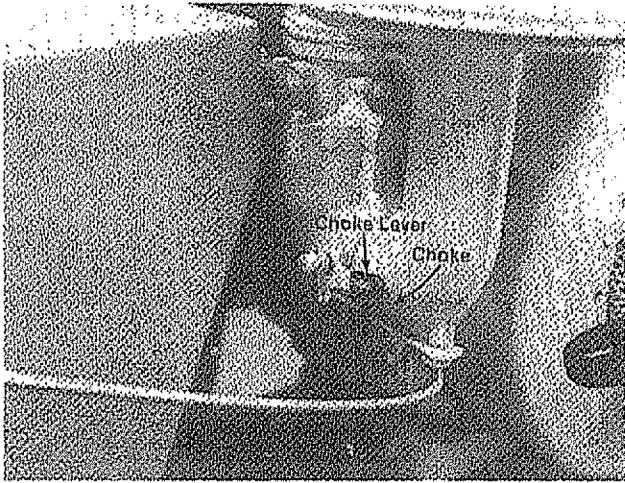

FIGURE 21.
3. Choke: The choke is located on the engine just below the air cleaner. To choke the engine move the lever down. See figure 21.
5. Choke engine. Move choke lever down. See figure 21. Once the engine starts, move the lever up.